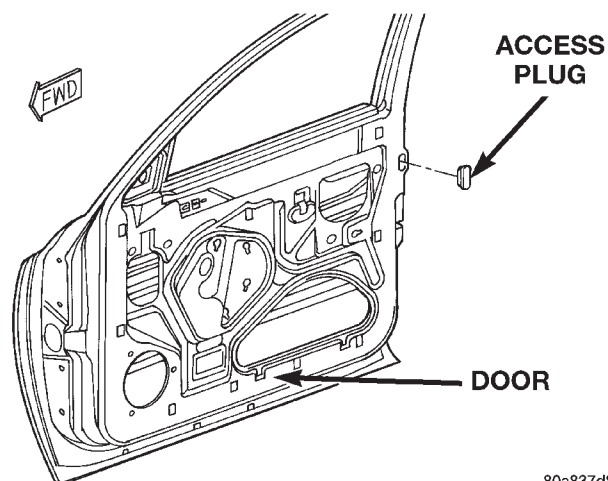

Fig. 28 Access Plug
- (4) Remove fastener access plug from door end panel (Fig. 28).